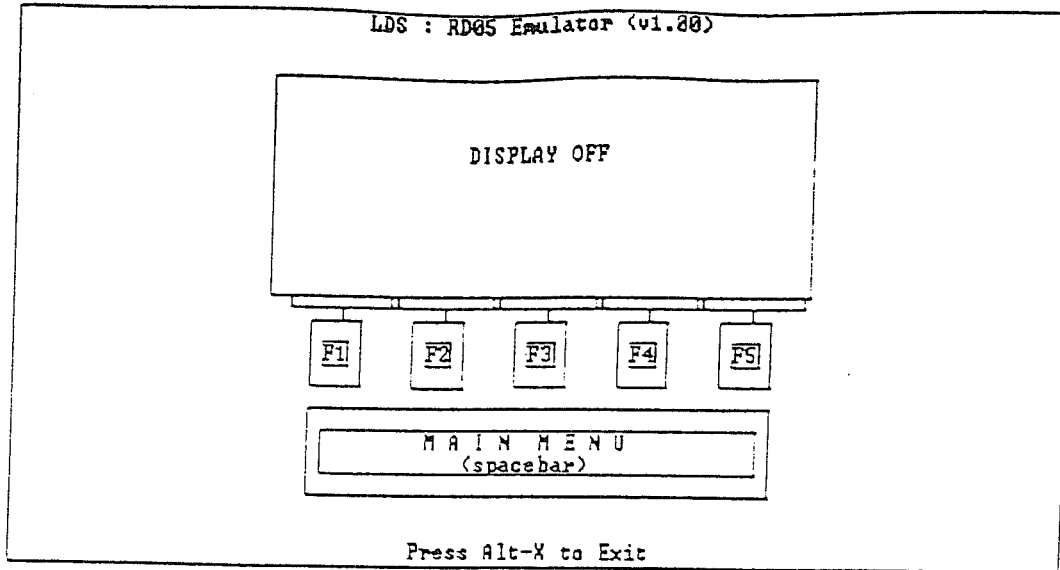

Figure 7-2
3. Turn on the computer, invoke the LDS software, and adjust the computer screen for best viewing. The initial screen should appear with the designation "Display Off". See Figure 7-2 on the next page for an example of how this would appear.